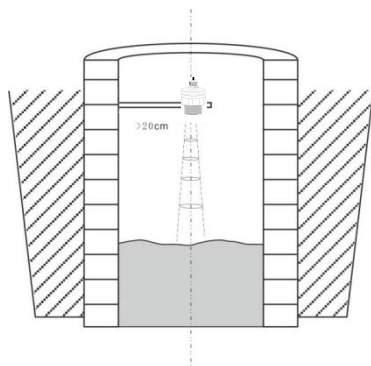

Fig.7
(3) The device shall be installed at least 20cm away from the side wall. For underground pipeline networks, it should be as close to the center of the sewer well as possible. Otherwise, interference signals may arise from the well wall, affecting measurement accuracy, as shown in Figure 7.